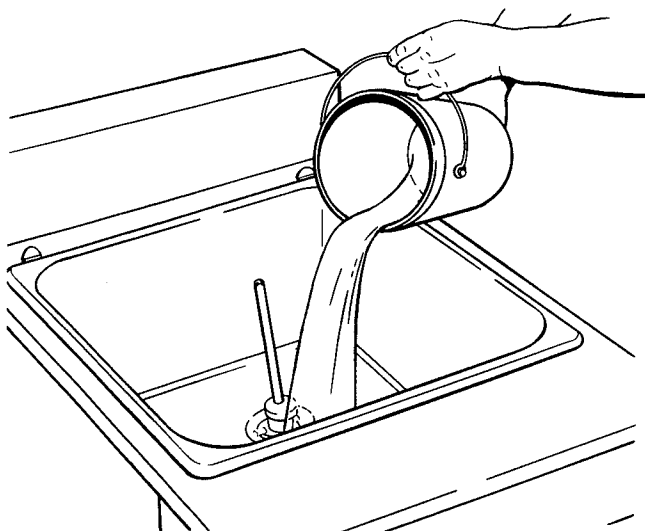

Figure 14. Pouring the Mix
- C. With spigot open, pour approximately 1 gallon (3.8 liters) of mix into the hopper. Allow the mix to flush out about 8 ounces (0.23 liters) of sanitizing solution and liquid mix. Close the spigot (Fig. 14).